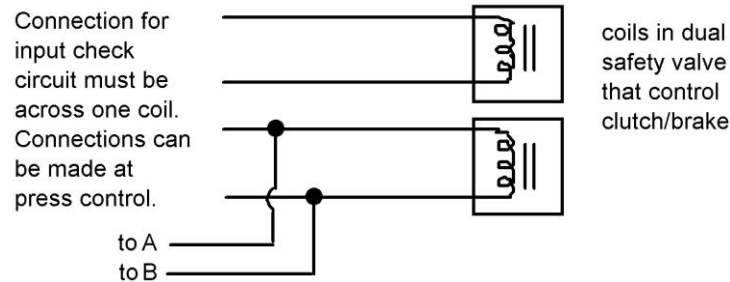

Figure 2-8. Schematic of input check circuit
4. Determine how you will connect wires to the input check circuit (terminals marked "A" and "B.") You need two wires. These inputs must be in parallel with one of the coils of the dual safety valve that controls the clutch/brake. When the clutch is engaged, 12–250 Vac or Vdc (50-60 Hz) must be present across terminals A and B. See Figure 2-8. The connection can be made inside the press control where the circuits to the valve relays are wired in. Refer to your press control manual and electrical prints. It does not matter which wire goes to which terminal on the connector.
10. Connect wires for the input check circuit to the terminals on TB 104 marked "A" and "B." It does not matter which way you connect the wires. See Figure 2-8.